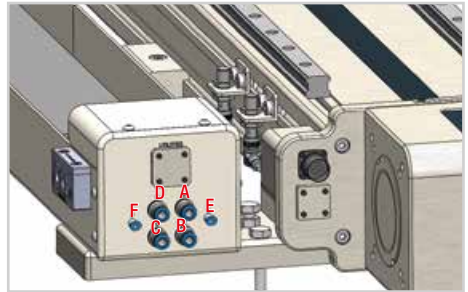
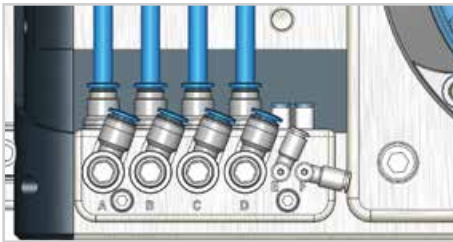
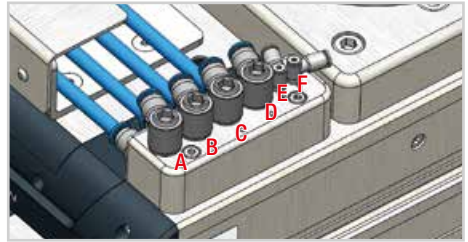

Fig. 24
Fig. 23
Fig. 25
**(A-B-C-D)** Air inlets to power robot accessories (fig. 24 and 25). Corresponding air outlets are on the axis carriage (fig.23).
**(E-F)** Air inlet for carriage clamping elements (fig. 25). Clamping elements optional if requested on order, see below chapter). Corresponding air outlets are on the axis carriage (fig. 23).
If requested during the order phase, the axis comes with clamping elements on the carriage that work on linear rails. With this option, the carriage presents open sides like the one shown in Fig.24. These are pneumatically activated elements. Pressurized air holds the clamping element open. The absence of pressurized air closes them and blocks the carriage. To unblock the carriage, it is necessary to restore pressure to the circuit. Working pressure: 5.5 bar.